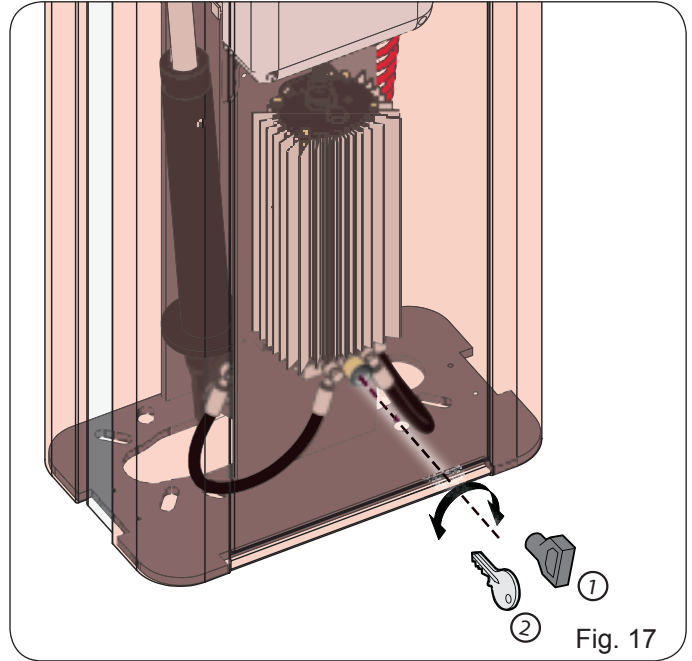

Fig. 17
Should manual operation of the barrier be required due to power outage or malfunction, the manual release device can be operated with the supplied key. The key is either triangular (Fig. 17 ref. ①) or customised (Fig. 17 ref. ② optional).
- Insert the key in the lock and turn it **all the way counter clockwise** until it clicks into place, as shown in Fig. 17
- (Fig. 17 ref. ①) standard triangular key
- (Fig. 17 ref. ②) optional metal key